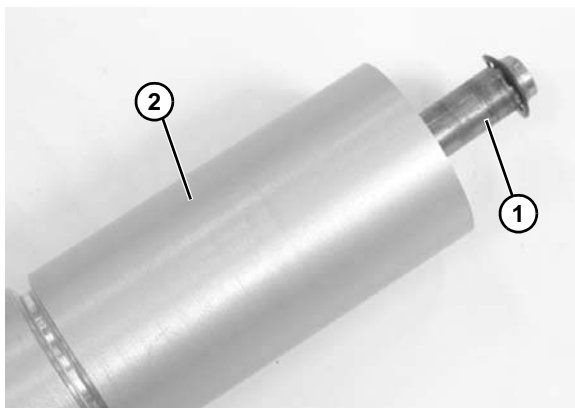

Figure 77
7. Slide the shaft assembly (**Figure 77, item 1**) out of the pulley (**Figure 77, item 2**).